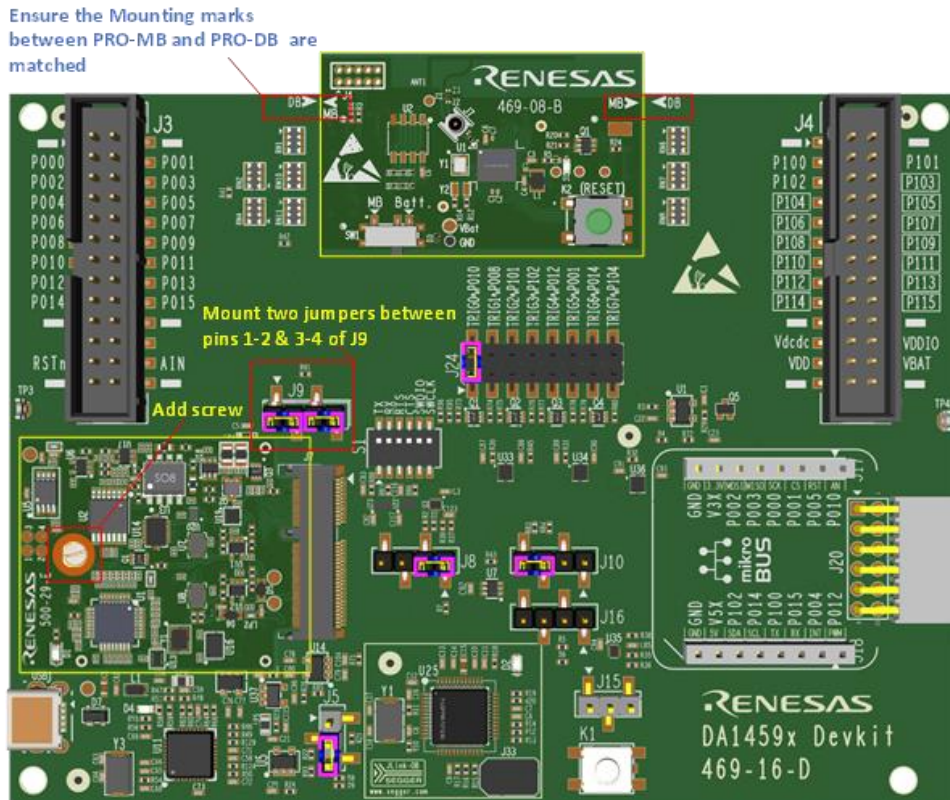

Figure 4. Default hardware setup of DA1459x Pro-Devkit with PMM2
2. Mount PMM2 as shown in Figure 4. The mounting screw (M2x4, D5x0.5 or similar) must be also applied.